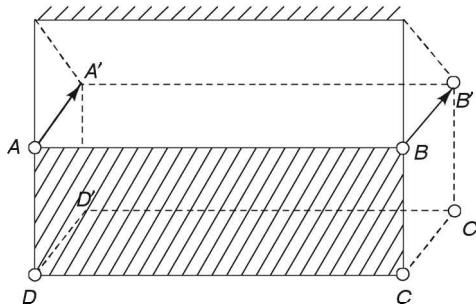

FIGURE 13.16 Curvilinear translation.
- (i) A thin plate hanging by two equal strings and performing plane curvilinear plane translation (see Figure 13.16).